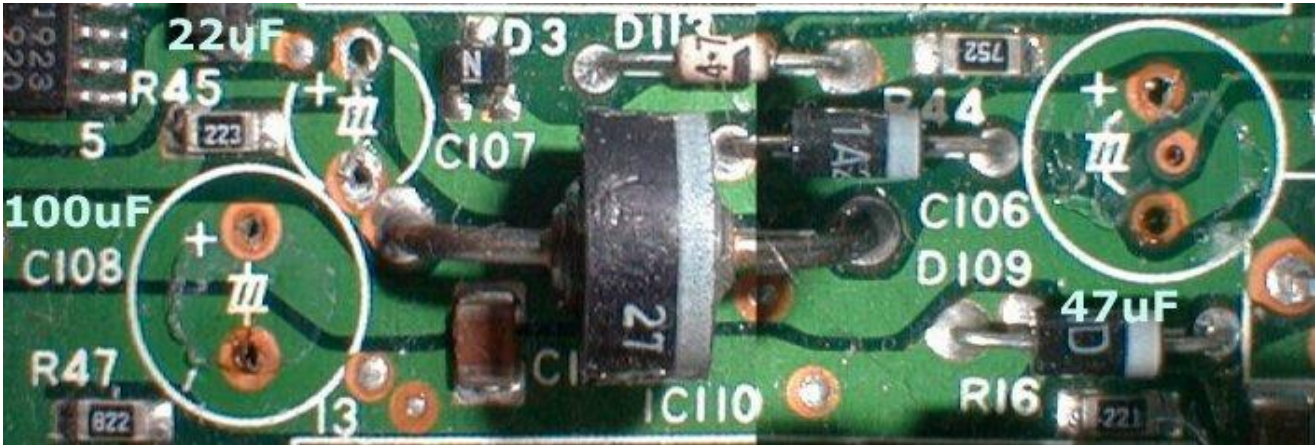

Figure 7
11. **A Look at the Naked Board.** Now that the capacitors are off, you should give them a good sniff. If any of them smell at all like rotten seafood, they are leaking. Be sure to pay attention to the area of the board underneath a leaking capacitor. For example, the ECU in these pictures had the faintest odor of rotten seafood from the 47 μ F capacitor. In **Figure 7**, notice that the bottom hole pad shows some darkness around the lower pad. It is the beginning of the oxidation of the copper pad. This ECU was caught just in time. Another thing that should be noticed in **Figure 7** is the marked polarity of the hole pads. Inserting a capacitor "backwards" can lead to an explosion.